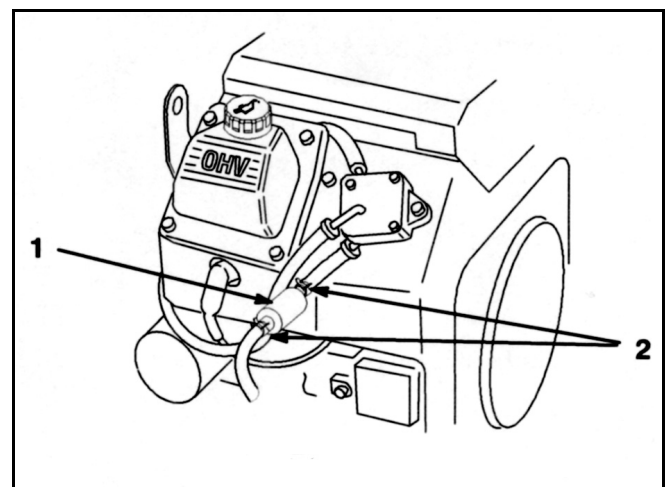

Figure 12
3. Squeeze the ends of the hose clamps together and slide them away from the filter (Figure 12).
5. Install a new filter and move the hose clamps close to the filter (Figure 12).